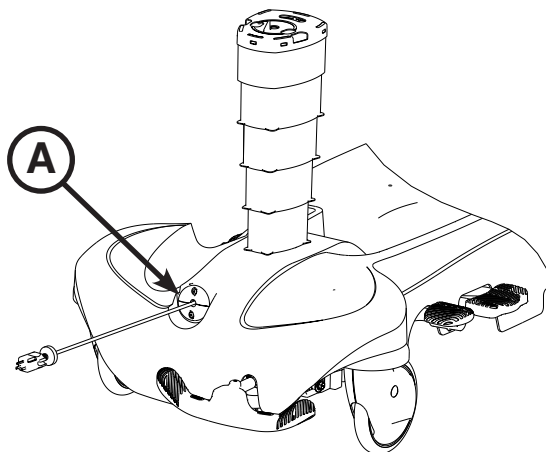

Figure 33: Optional Retractable Cord Reel
The retractable cord reel (A) stores the stretcher power cord during transport as shown in Figure 33.